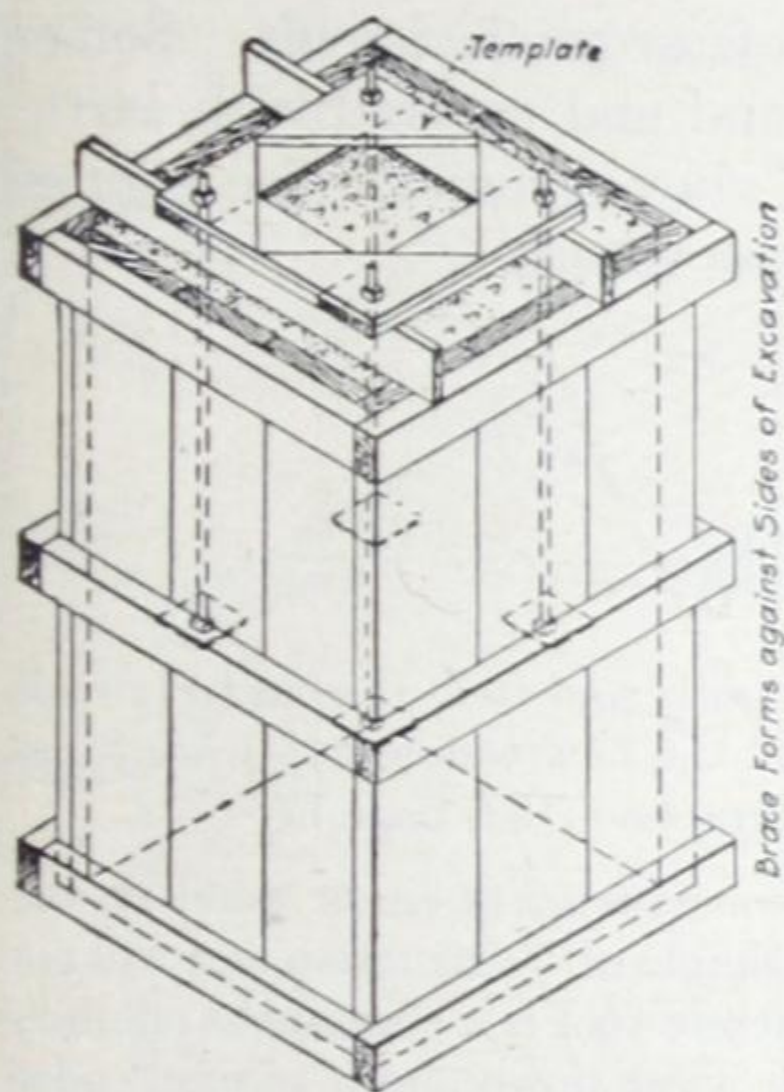

Fig. 29—Forms for piers to carry wind mill or water tank.
*Fastening to Superstructure*—Then construct a template to hold the bolts in place. See Figure 29. These bolts should be large enough to extend within 2 feet of the bottom and, of course, far enough above the top to provide proper fastening for the tower. For a steel structure the bolts must be long enough to extend through the steel base far enough for the nuts to be screwed on. For a wooden structure the bolts